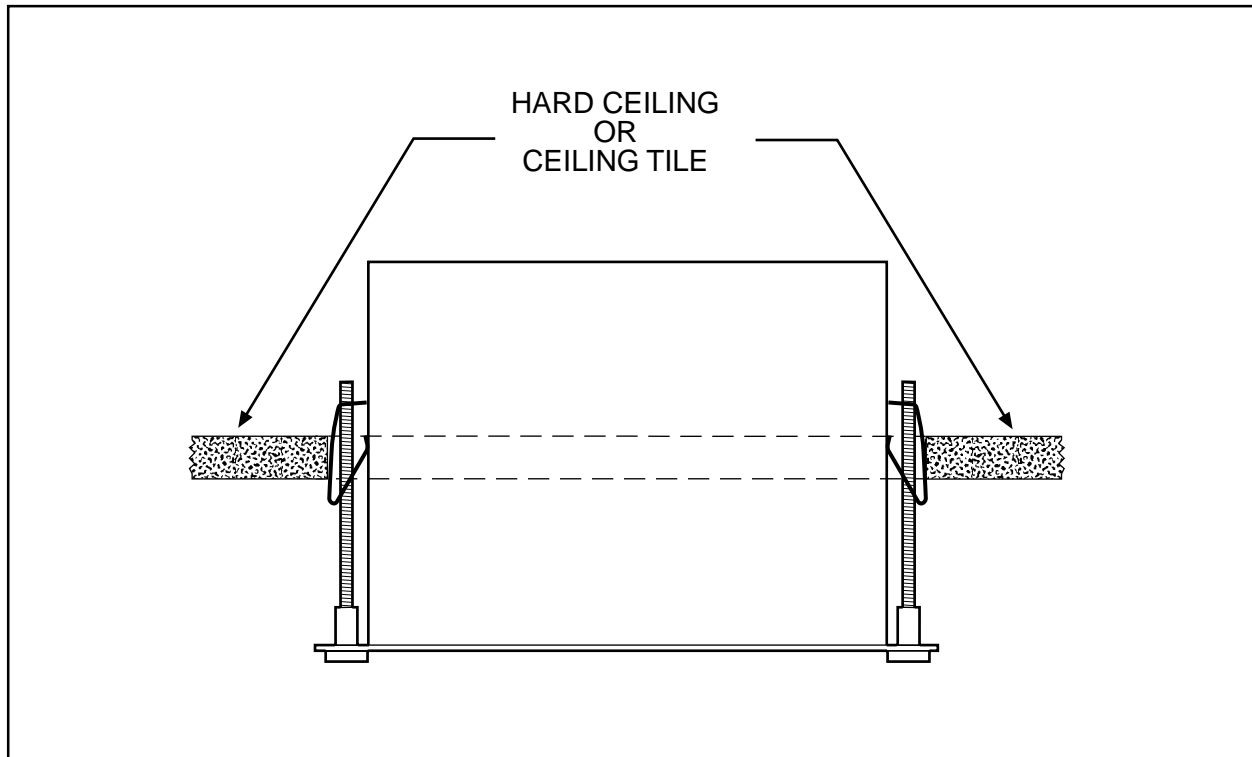
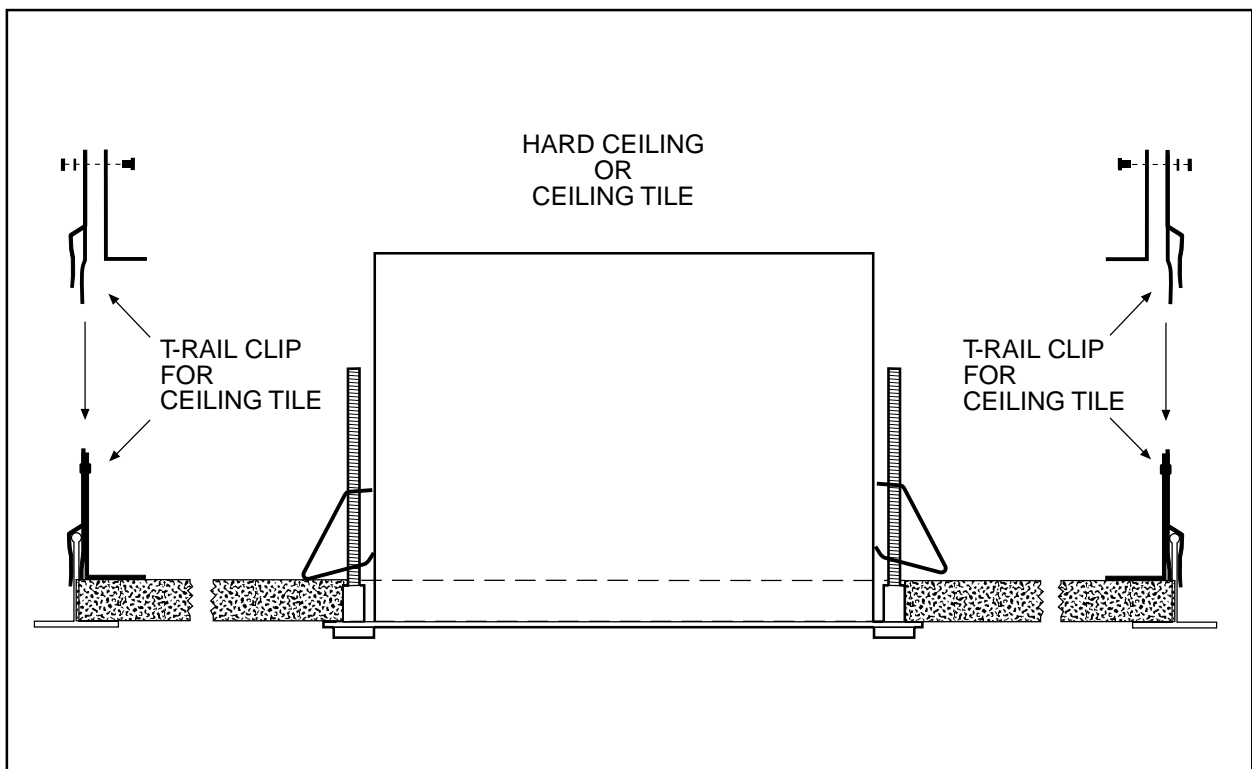

Figure 4. Installing Back Box
Figure 5. Fastening Back Box
7. Refer to Figure 4. Compress the spring clips on the back box with your hands and push the back box through the hole in the ceiling tile. The spring clips will spring out when they clear the ceiling tile.
8. Refer to Figure 5. Tighten the screws until the spring clips hold the back box firmly to the ceiling tile. You will hear a clicking noise when the screws are tight. Do not install the ceiling tile in the ceiling yet.
1. **Suspended Ceiling Only (for hard ceiling, go to step 2)** – Install the ceiling tile with the back box. Attach a T-rail clip on each side of the ceiling tile as shown in Figure 5.
5. **Hard Ceiling Only** - Refer to Figure 4. Compress the spring clips on the back box with your hands and push the back box through the hole in the ceiling. The spring clips will spring out when they clear the ceiling. Refer to Figure 5. Tighten the screws until the spring clips hold the back box firmly to the ceiling. You will hear a clicking noise when the screws are tight.